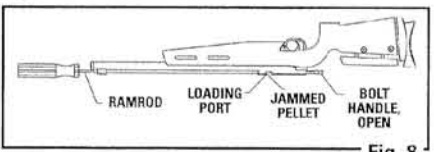

Fig. 8
- Push the jammed pellet into the pellet loading port (forward of the bolt) (Fig. 8).